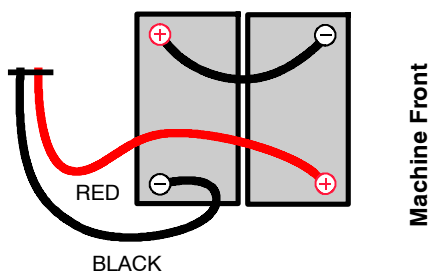

FIG. 2
2. With adequate assistance, carefully install the batteries into the battery compartment. Arrange the batteries as shown (Figure 2).
3. Using the supplied battery post boots, connect the cables to the battery posts as shown (Figure 2). Connect the machine's black (-) battery cable last. Use insulated tools when working near batteries.